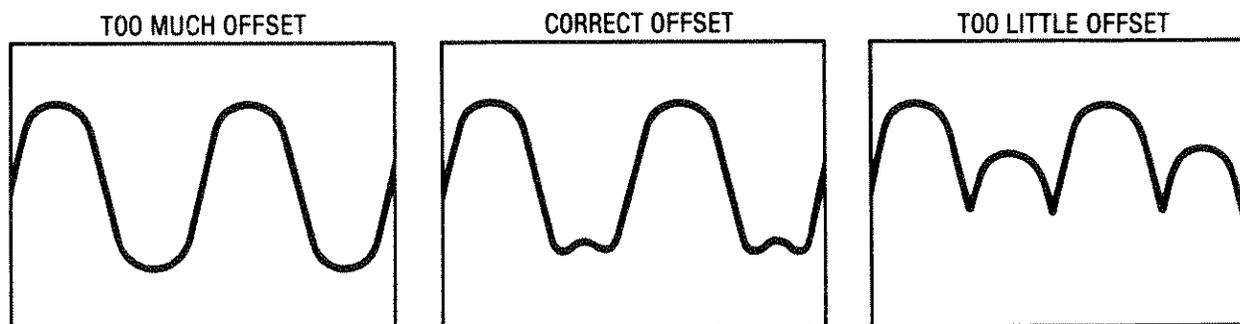

Figure 5-12. YTO Loop Offset Adjustment Waveforms
11. Set the YTO loop offset adjustment A3A9A4R53, OFST, so the sinusoidal waveform just begins to fold over. See Figure 5-12.